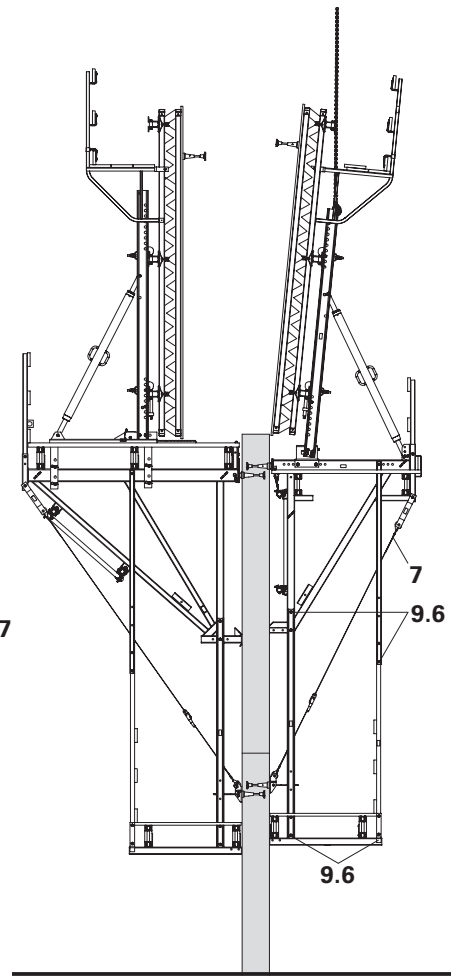

Fig. B1.29
12. Mount wind bracing (7), see B1 Assembly of wind bracing. (Fig. B1.29)